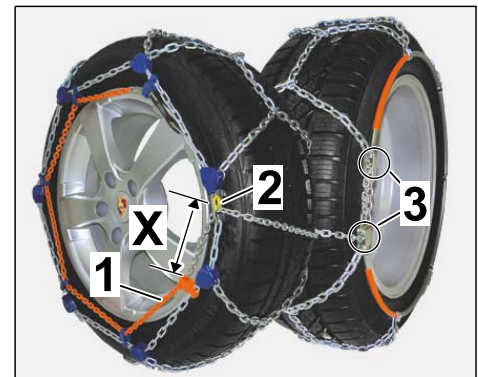

Figure 15
2.4 Check that the snow chain is installed correctly on the wheel (⇒ *Figure 15*)
- The area marked in red on the tensioning chain must be pulled completely through the slot on the locking plate. The distance between the area marked in red and the slot on the locking plate (dimension X ⇒ *Figure 15 -X-*) can vary depending on the tyre size.
- Position of deflection roller/tensioning points (inside of wheel ⇒ *Figure 15 -3-*): Must **NOT** be lying on the running surface of the tyre or touching the road.